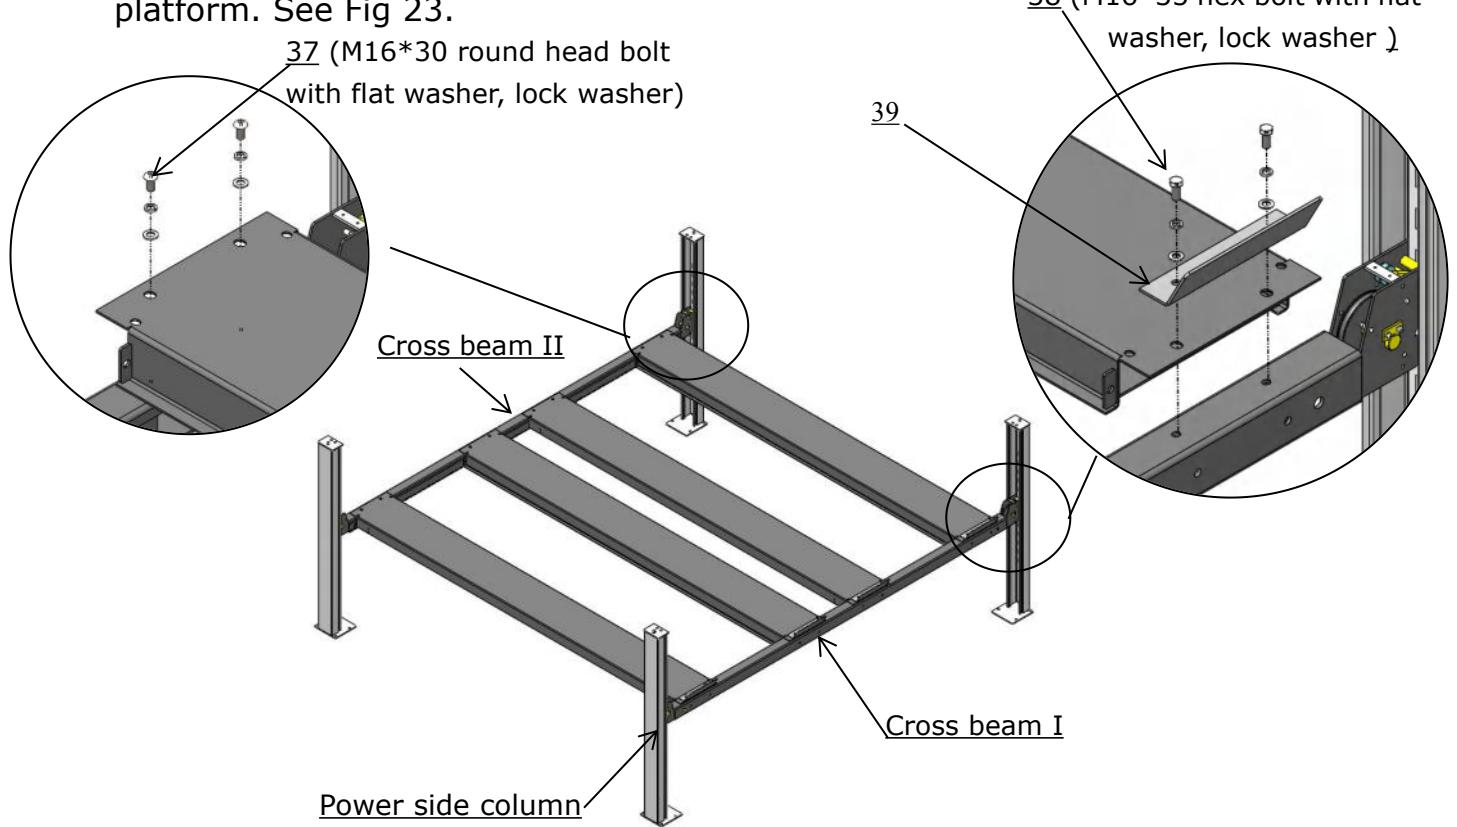

Fig. 23
2. Install platform connecting bolts, follow the same steps as power side platform. See Fig 23.